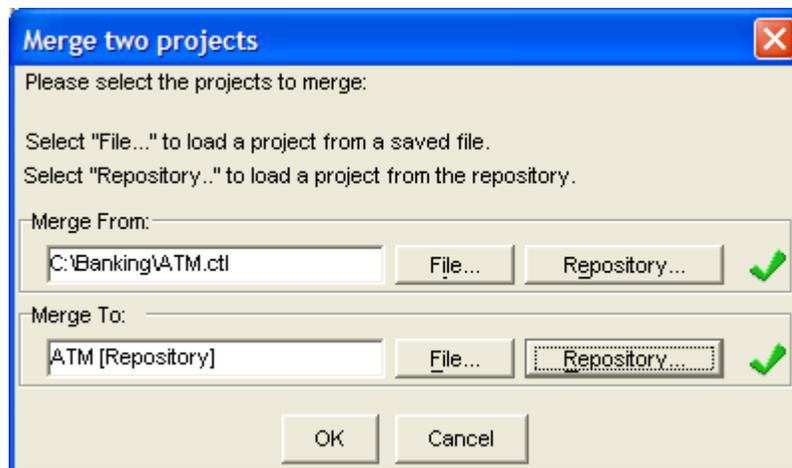

Figure 76 - Specify Two Projects to Merge screen
- Click on Tools, then Merge Two Projects, and the screen shown Figure 76 will appear.
You can select both Projects to merge by clicking on the File button or the Repository button, depending on where the Project is stored. Once you have selected a Project, Optimal Trace™ Enterprise will validate that the Project is correctly formatted and place a green tick next to the Project's name, as in Figure 76. Once you have the two Projects specified: